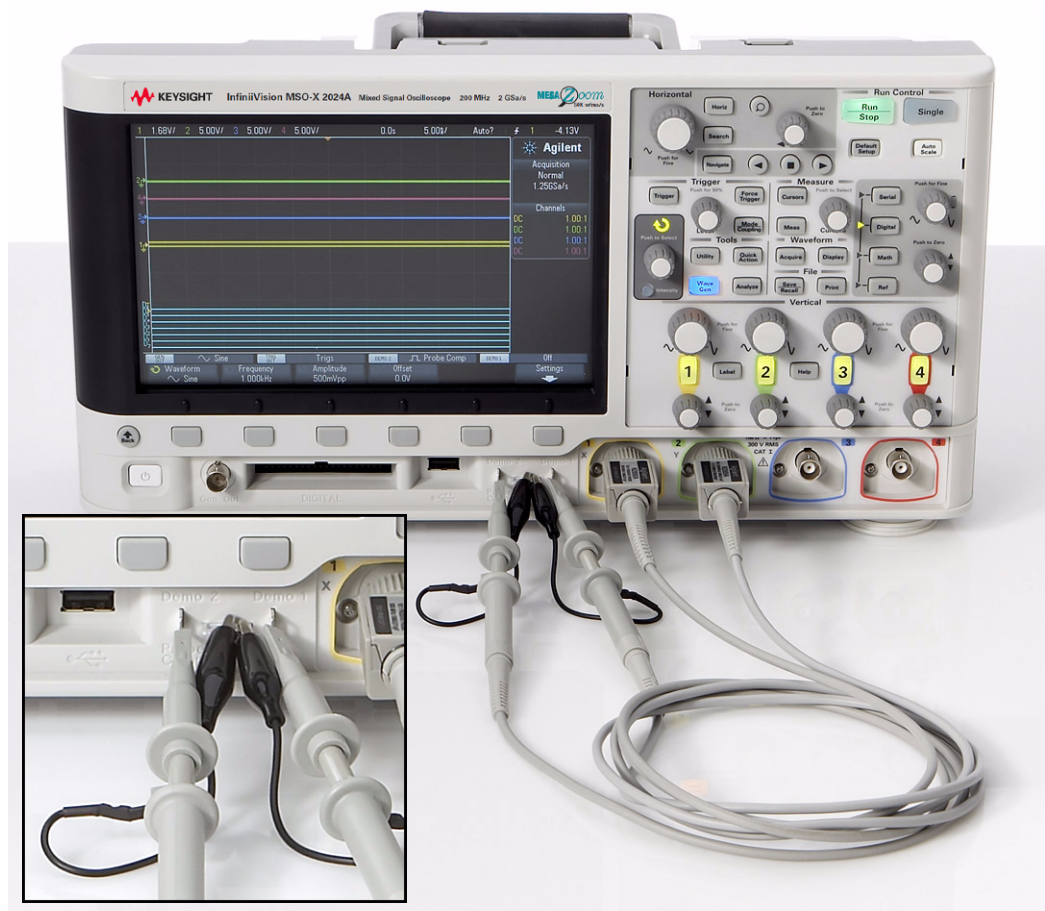

Figure 8 Connecting probes between the channel-1 and channel-2 inputs to the training signals output terminals
- 1 Connect one oscilloscope probe between the channel-1 input BNC and the output terminal labeled “Demo1” as shown in **Figure 8**. Connect this probe's ground clip to the center terminal (ground).
- 2 Connect a second oscilloscope probe between the channel-2 input BNC and the output terminal labeled “Demo2” as shown in **Figure 8**. Connect this probe's ground clip to the center terminal.